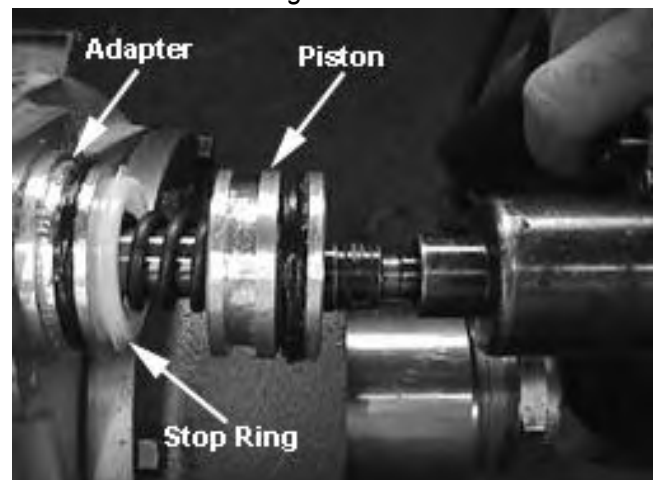

Fig. 9
8. Remove the shift shaft along with the piston, spring, and nylon stop ring. Similar to Fig. 9. If needed the shift cylinder adapter may also be removed from the case.
12. If necessary, remove the declutch shift piston from the shift shaft. *See Fig. 9.*